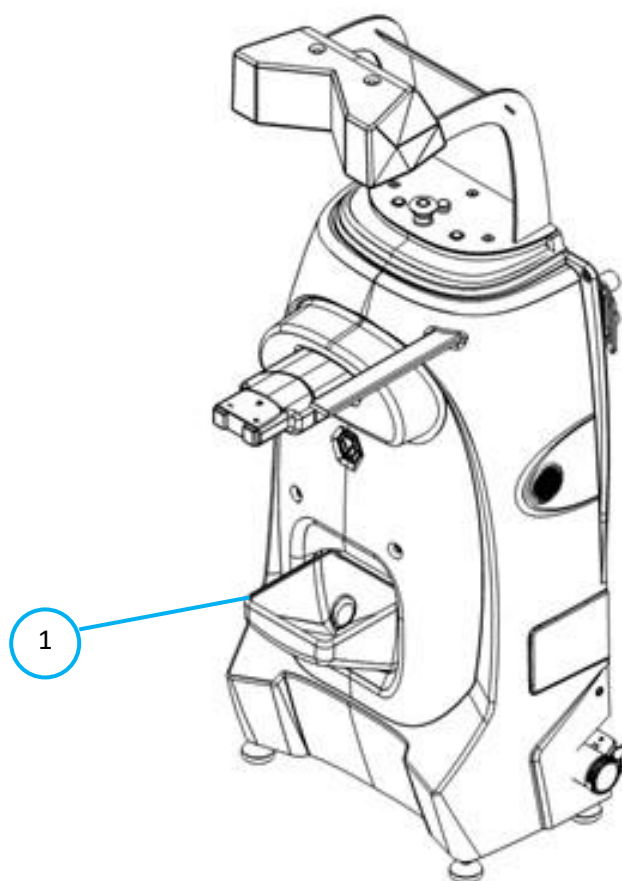

Fig 1
1. Check the drain basin (Fig. 1 – 1) for debris.